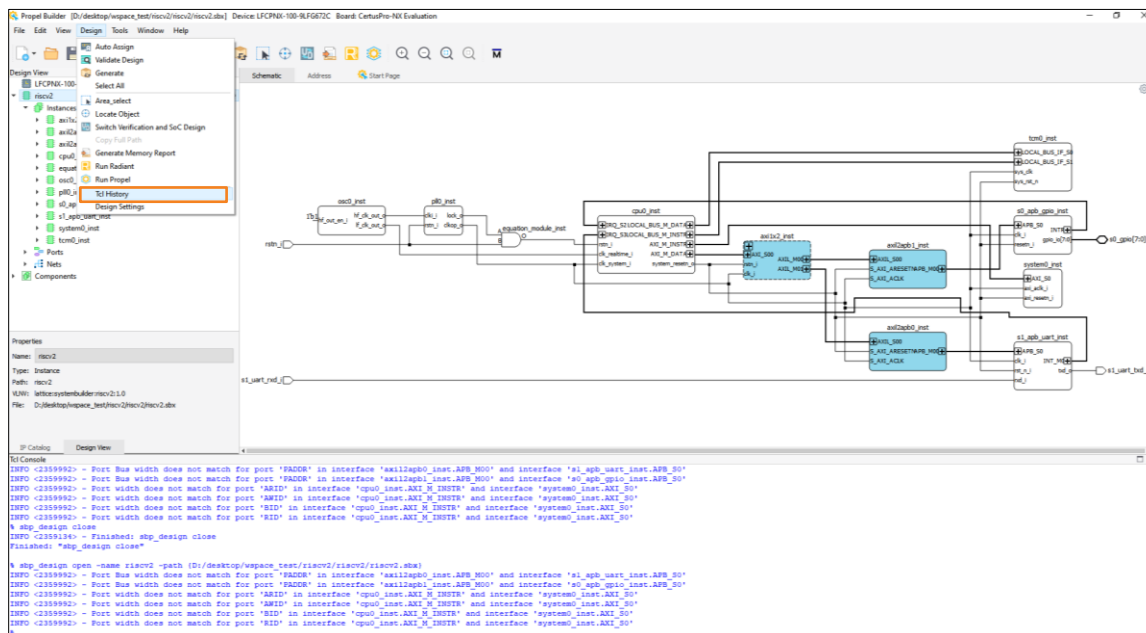
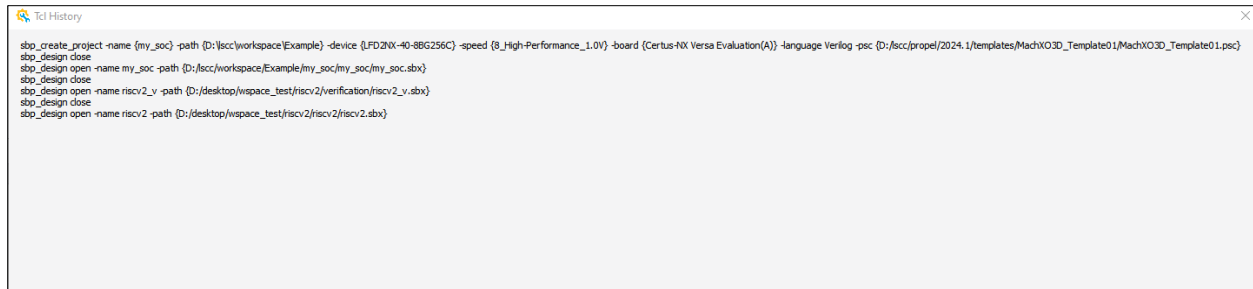

Figure 2.108. Open TCL History
Figure 2.109. TCL History Window
- d. TCL history can be viewed in TCL History window (Figure 2.109) by choosing Design > TCL History (Figure 2.108).